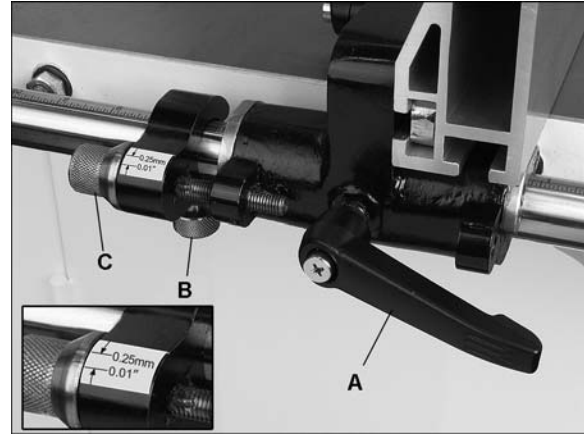

Figure 9
Slide the micro-adjust assembly onto the end of the tubular rail. See sect. 9.3 and Figure 9 for proper orientation and instructions.
Refer to Figure 9.
1. Loosen handle (A, Figure 9).
2. Loosen knob (B).
4. Tighten knob (B).
5. Rotate dial (C) to achieve fine adjustment. Distance between incised lines on dial is 0.25mm (0.01 inch).
6. Tighten handle (A).